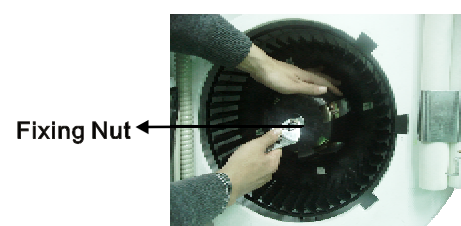

Fig 7
- 3.Loosen the fixing nut of the airflow fan and take out the airflow fan.(Fig 7)